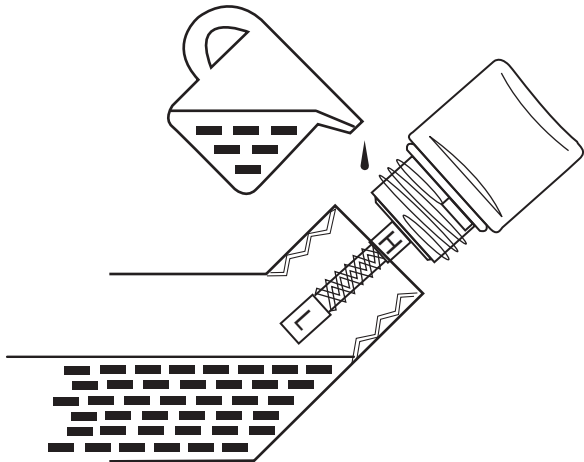

Figure 7-4 – Checking Oil Level
- Acceptable Oil Level – Oil is visible on the cross-hatches between the H and L lines on the oil fill plug/dipstick (see Figure 7-4).